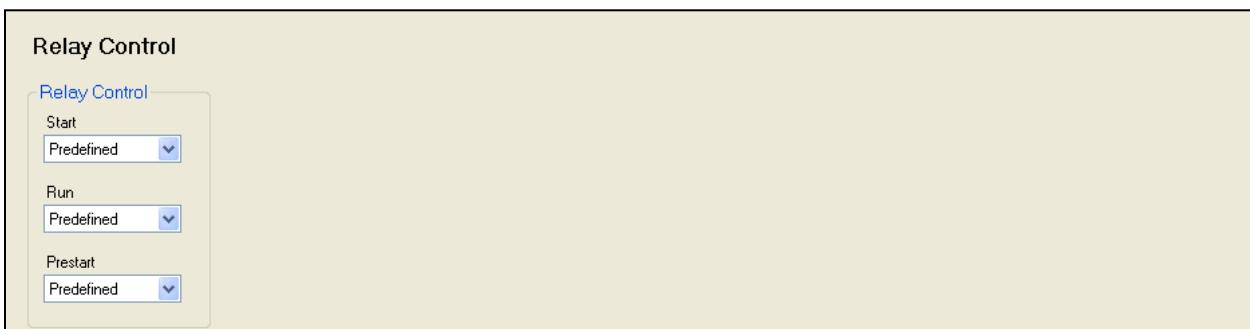

Figure 6-27. Settings Explorer, System Parameters, Relay Control Screen
- a. This selects the operation mode for the PRE, START, and RUN relays on the back of the DGC-2020. In general, most machines will use preconfigured functionality; more advanced users may select logic usable. Refer to the appropriate paragraphs in Section 4, *BESTCOMSPlus Software*, for additional information. See Figure 6-27.